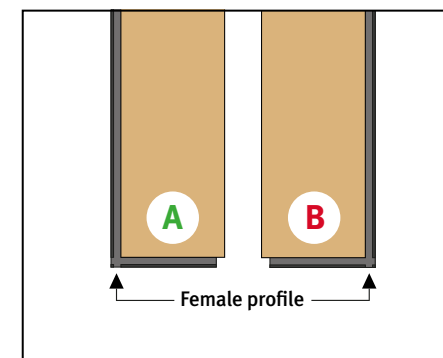

Figure 24
- ▶ The key to a successful floating Herringbone installation is to first form a number of triangles from A and B planks as shown below in (Fig 24) which fit along the longest wall to commence the installation.
- ▶ Contact Polyflor Customer Technical Services Department \(CTSD\) on +44 (0)161 767 1912 for further advice.
- ▶ A-planks can be identified by the lower female profile being on the Left-hand side; and the B-planks with the lower female profile on the Right-hand side (Fig 24).